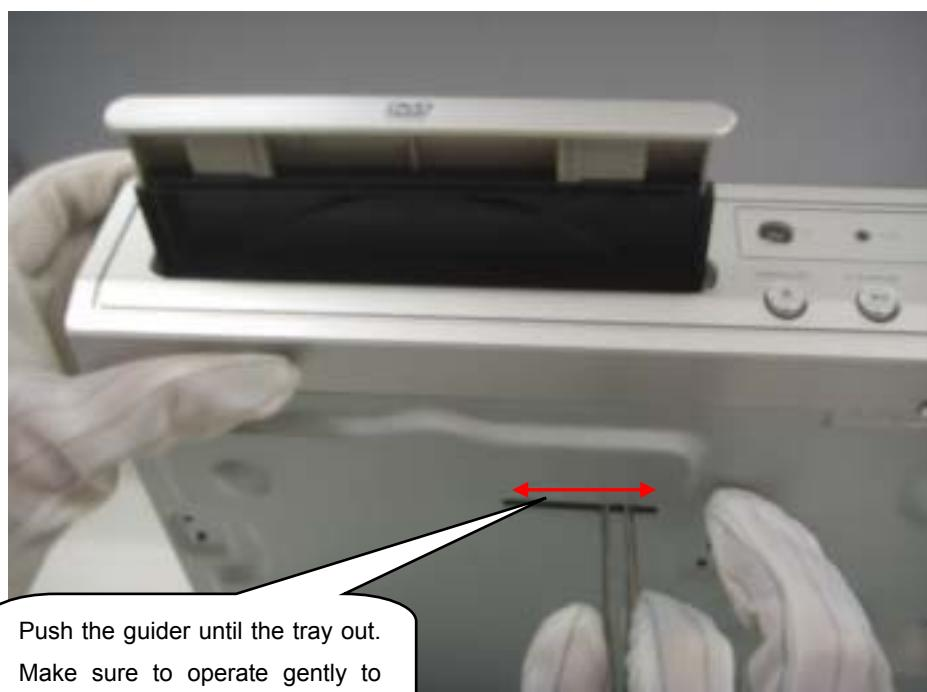

Figure 5
Step4: If the tray can't open in normal way, you can make it through the instruction as below (Figure 5).